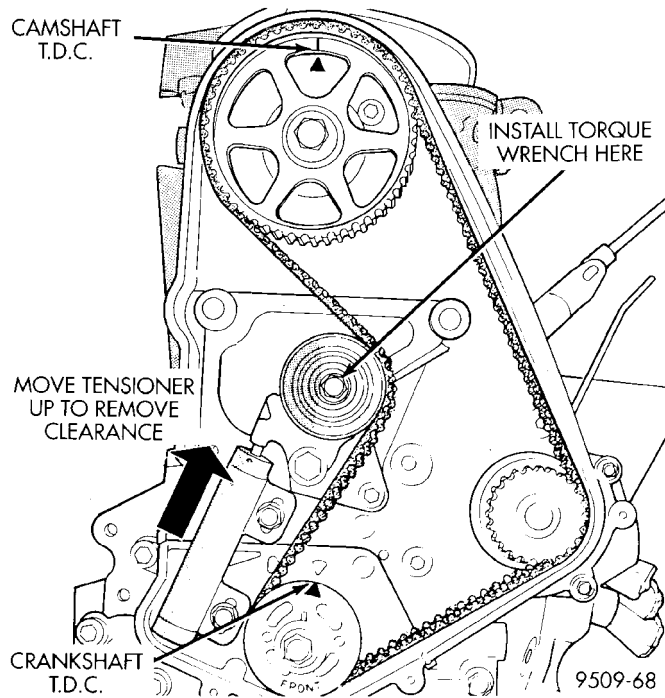
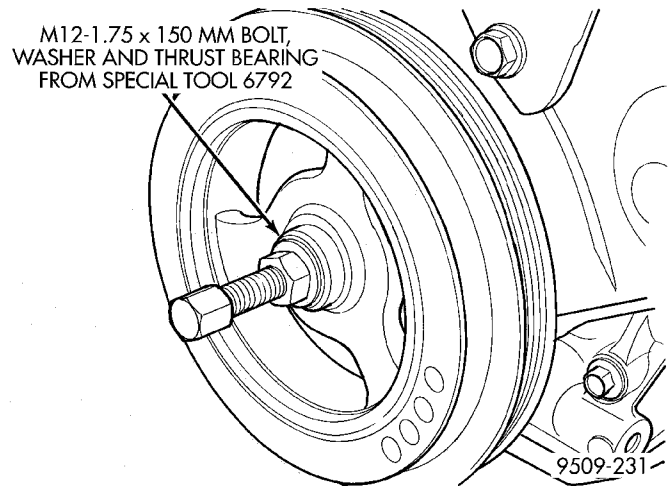

Fig. 53 Adjusting Timing Belt Tension
Fig. 54 Crankshaft Damper—Installation
(8) Move crankshaft sprocket to TDC to take up belt slack. Install tensioner to block but do not tighten fasteners.
(9) Using a torque wrench on the tensioner pulley apply 28 N·m (250 in. lbs.) of torque (Fig. 53).
(10) With torque being applied to the tensioner pulley move the tensioner up against the tensioner
pulley bracket and tighten fasteners to 31 N·m (275 in. lbs.) (Fig. 53).
(11) Pull tensioner plunger pin. Pretension is correct when pin can be removed and installed.
(12) Rotate crankshaft 2 revolutions and check the alignment of the timing marks (Fig. 53).
(13) Install front half of timing cover.
(14) Install engine mount bracket.
(15) Install Right engine mount. Refer to procedure outlined in this section.
(16) Remove jack from under engine.
(17) Install crankshaft damper using M12-1.75 x 150 mm bolt, washer, thrust bearing and nut from Special Tool 6792. Install crankshaft damper bolt and tighten to 142 N·m (105 ft. lbs.) (Fig. 54).
(18) Install accessory drive belts. Refer to Group 7, Cooling System Accessory Drive section for procedure.
(19) Raise vehicle on hoist and install right inner splash shield.
(20) Perform camshaft and crankshaft timing relearn. Refer to Group 25, Emission Control Systems for procedure.